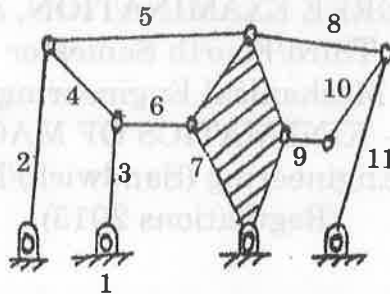

Fig. 11(a)
11. a) i) State and brief the Kutzbach criterion for planar mechanisms and using this criterion, determine the arrangement shown in Fig. 11 (a) as a structure or a constrained mechanism or an unconstrained mechanism. (6)